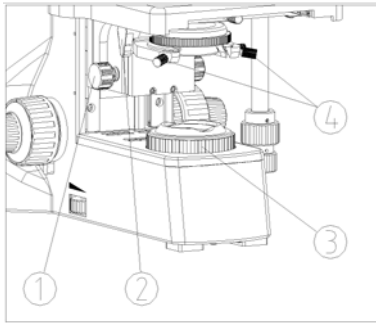

Fig. 17
- (1) Rotate the condenser knob ① to raise it to the highest position (see Fig. 17).
- (2) Rotate the condenser swing-in lens ② into light path.